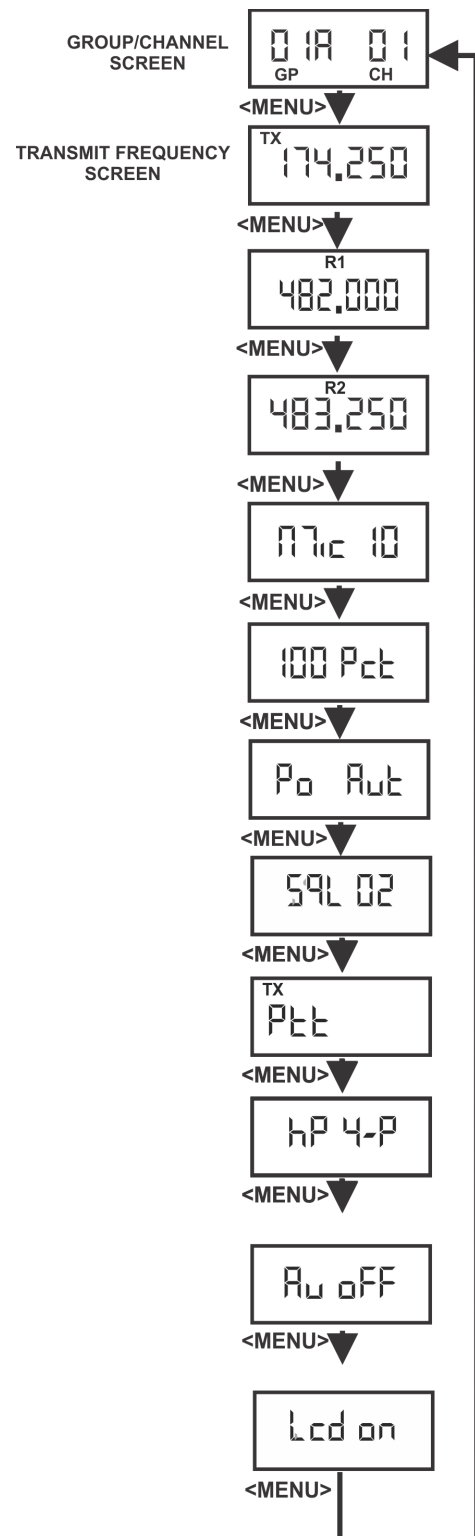

FIGURE 77. Group/Channel and Transmit Screen
*See Groups and Channels Instructions. The menu structure in Figure 77 indicates how to get to the transmit frequency screen.*